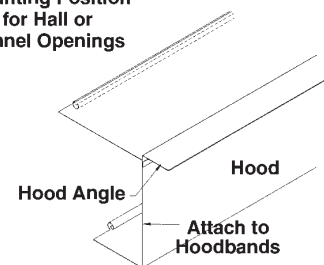

FIGURE 31a
- Position hood angle centered on the hood against header/lintel/ceiling. The hood angle is designed to extend beyond each end of the hood. See Figure 31a and 31b.